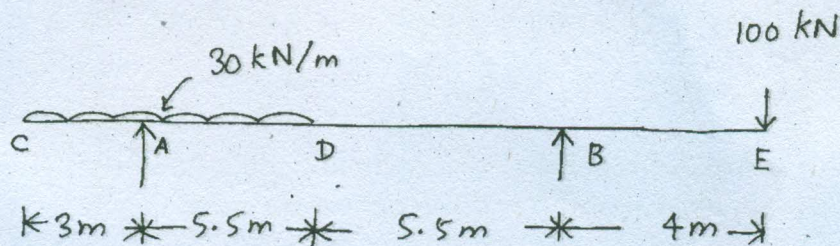

Fig. Q. 13 (a)
13. (a) Draw the B.M. and S.F. diagrams for the overhanging beam shown in fig. Q. 13 (a)